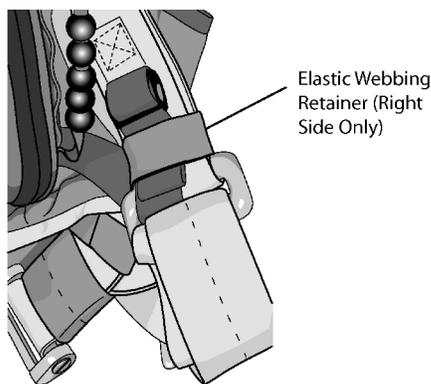

Figure 13. Elastic Retainer Webbing
(27) Cut one piece of 1-in. elastic webbing 4 1/2-in. long.
(28) Wrap elastic retainer around harness webbing on right side, above D-Ring but below single bar slide.
(29) Align edges of elastic webbing and sew 1/8-in. from the edge.
(30) Turn elastic webbing inside out, placing seam on inside (Figure 13).